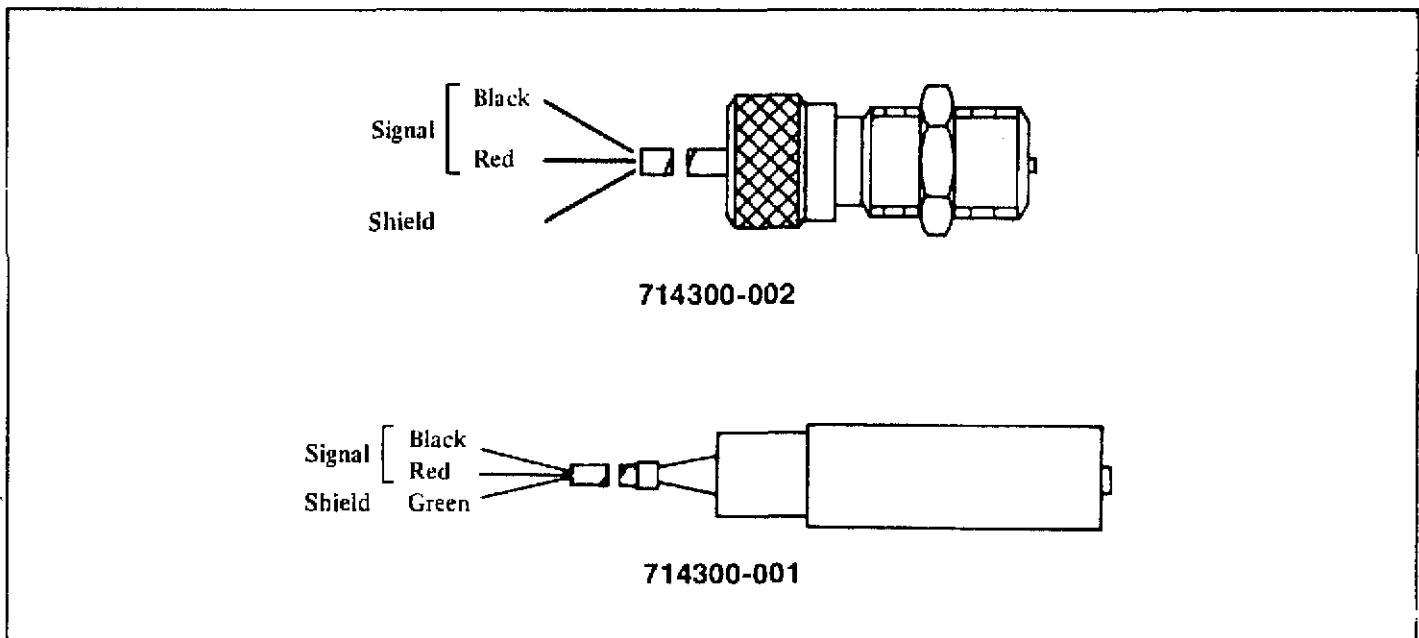

Figure 3. Output Designations.
E. WIRING. Do not attempt to make connections directly to the pins on the sensor connector. Connections to the sensor should be made by using the Sensor Cable. See Figure 3 for connector wiring diagrams.